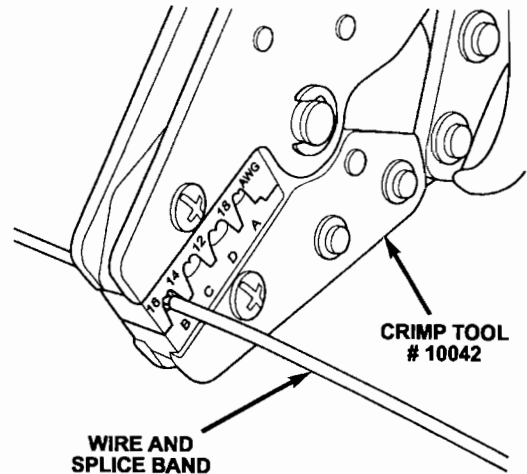

Figure 8
9. Insert the new and existing wire strands (from opposite sides) into the splice band/crimp tool so that they overlap each other inside of the splice band (Figure 8).
10. Crimp the splice band and wires together by squeezing the crimping tool handles. The tool will release once the proper crimping force has been achieved (Figure 8).